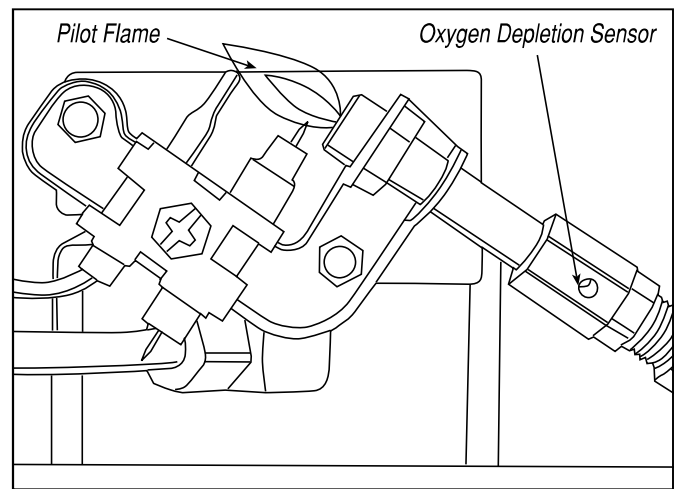

Figure 3
Visually inspect the pilot flame and burner periodically during use. The pilot flame should be blue in color (not yellow) and will extend beyond the thermocouple. The flame will surround the thermocouple just below the tip, see Figure 3. A slight yellow flame may occur where the pilot flame and main burner flame meet. The burner(s) should be bright orange (with a slight blue color around the border, a red-orange haze that is visible on the ceramic tile is acceptable) and without a noticeable flame.
- 4 Remove (4) screws securing back cover to heater. Lift up slightly to release (2) plastic hooks on top of back cover.
- 6 Remove (3) screws attaching lower baffle to expose burner air openings.
- 9 Inspect and clean pilot (mounted to bracket) by using a vacuum or apply air pressure through the holes in the pilot indicated by the arrows in Figure 3.